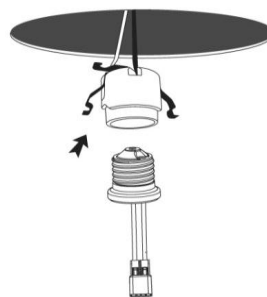

Fig. 3
4. Detach the orange connector from socket adapter and insert black and white fixture wire into non-wired half of orange connector following color code marked. (Fig.3)